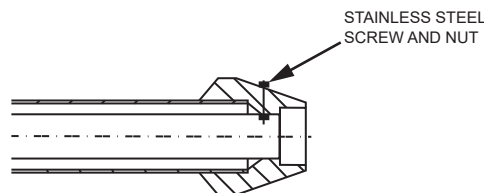

Figure 32. Installing the Rain Cap
A. Cement Y concentric fitting to larger diameter kit pipe. See *Figure 32*.
B. Cement rain cap to smaller diameter kit pipe. See *Figure 32*.
Note: Instead of cementing the smaller pipe to the rain cap, a stainless steel screw may be used to secure the 2 components together when field disassembly is desired for cleaning. See *Figure 32*. Locate the drill location dimple on the outside of the rain cap; at this location, drill a 3/16" hole through the cap and the inner pipe wall with the path of the hole perpendicular to the inner pipe **NOT** the outside of the cap; insert the screw and tighten the bolt; do not over tighten.
Note: Instead of cementing the smaller pipe to the rain cap, a field-supplied stainless steel screw may be used to secure the 2 components together when field disassembly is desired for cleaning. See **Figure 32** (page 35).